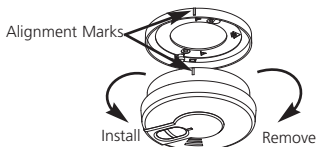

FIGURE 6
- 1). Remove the mounting plate from the back of the alarm by holding the mounting plate and twist the alarm in the direction indicated by the "REMOVE" arrow see Figure 6.
- 5). Alignment marks are provided on the edge of the trim plate and the alarm. After installing the mounting plate, place the alarm on the mounting plate with the alignment marks lined up. Twist the alarm in the direction indicated by the "ON" arrow on the alarm cover (see Figure 6) until it locks in place.